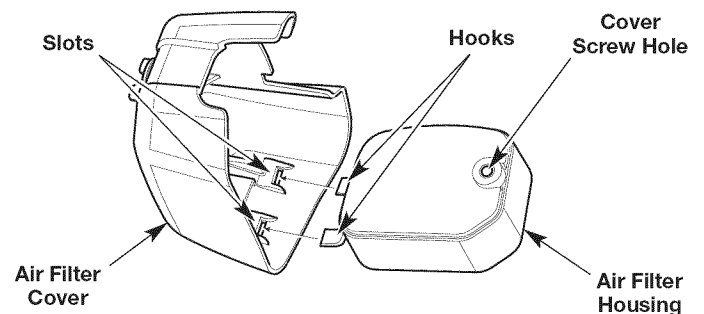

Fig. 19
6. Reinstall the air filter inside the air filter housing (Fig. 19).
7. Insert the hooks on the air filter housing into the slots on the air filter cover (Fig. 19).
8. Swing the air filter cover to the right and align the cover screw with the cover screw hole (Fig. 19). Tighten the cover screw to secure the air filter cover.